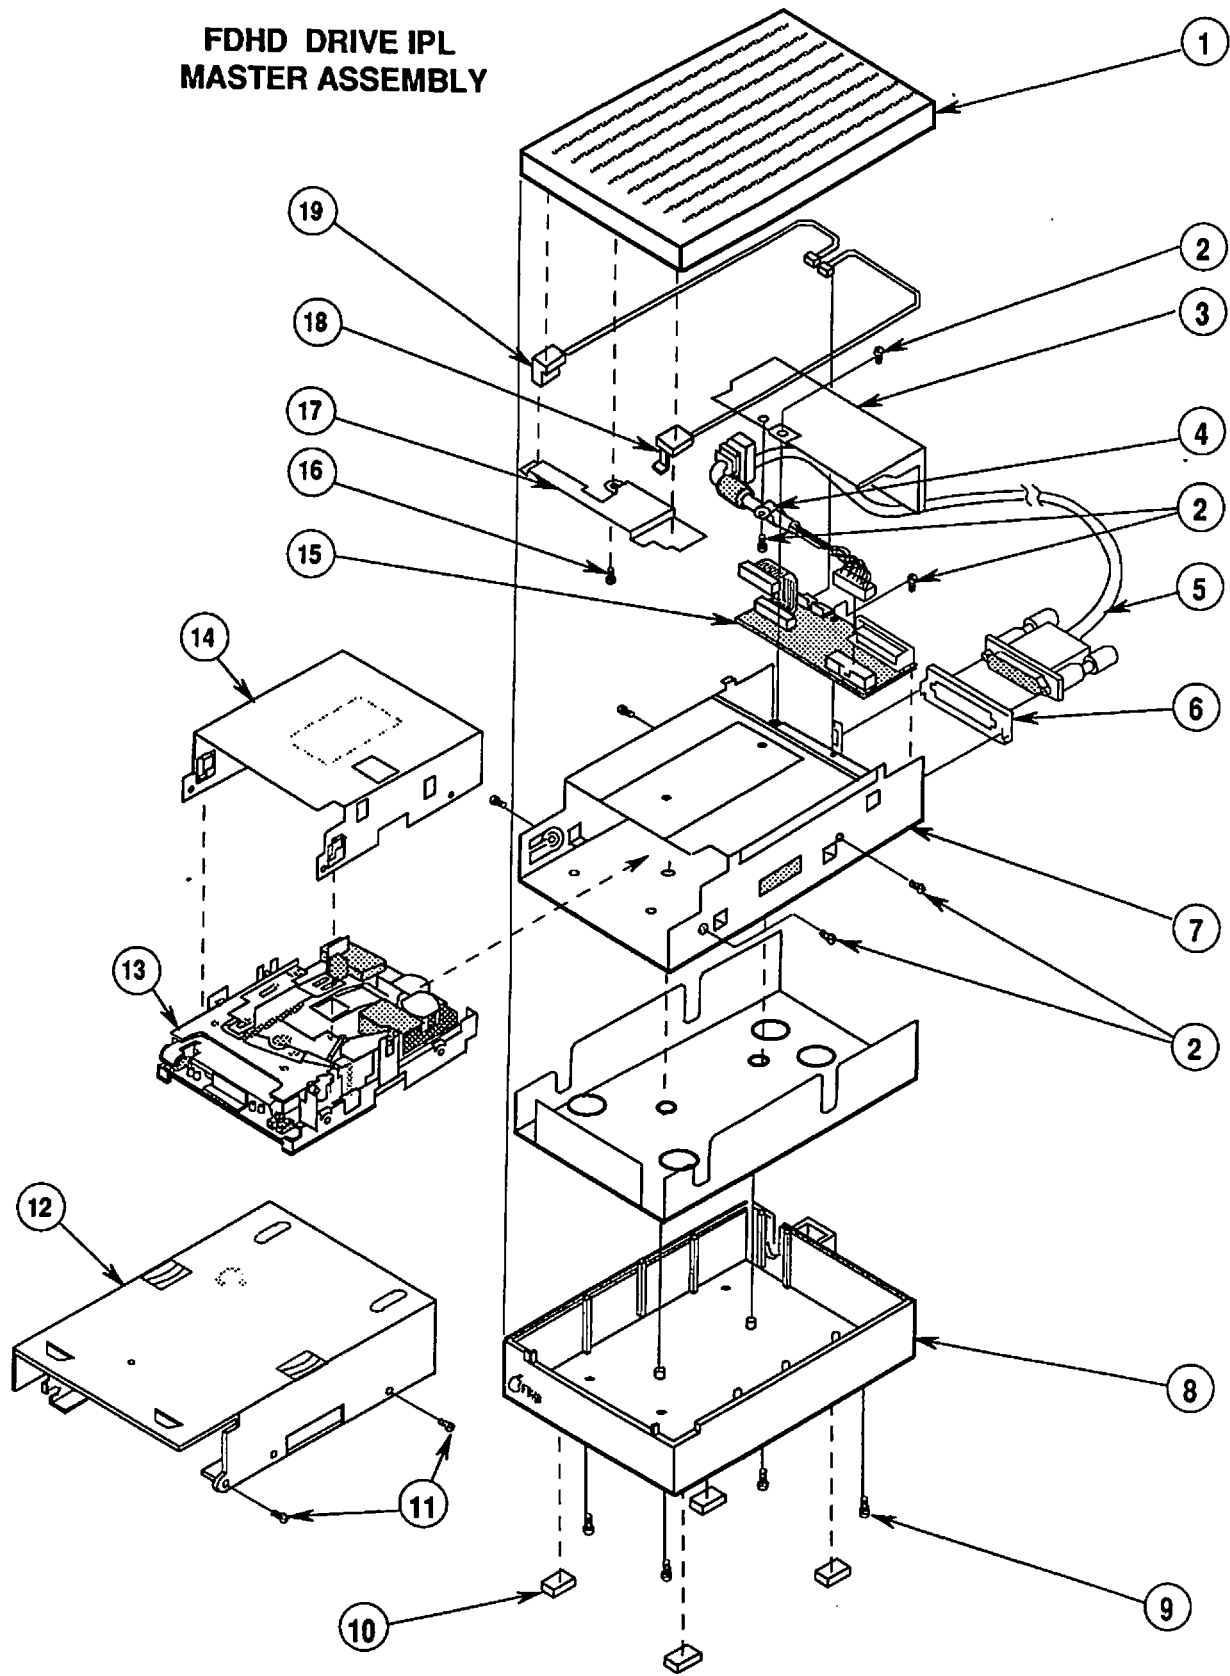

FIGURE 1
- IPL.3 Finished-Goods Assembly (Figure 1)
□ **FINISHED-GOODS ASSEMBLY (Figure 1)**